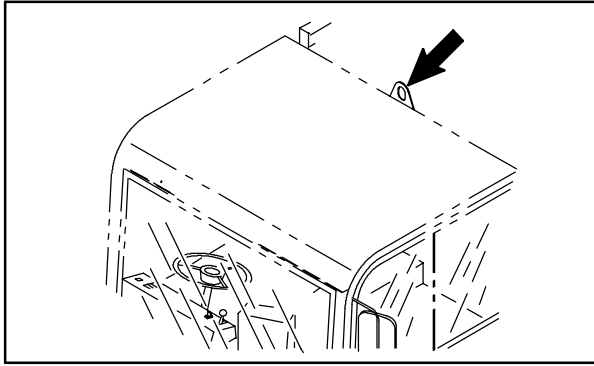

FIG. 18
30. Hook the overhead hoist chain to the lug located on the cab. Refer to Fig. 18.